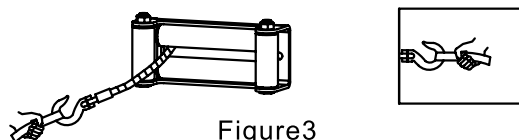

Figure3
10. After the operation, clean the wire rope and the hook. It is forbidden to put fingers on the hook, for fear of causing injury. It is also forbidden to guide the wire rope to the drum by hand. When the hook comes near to the roller fairlead, you should use the handsaver to guide the wire rope. (See figure 3)